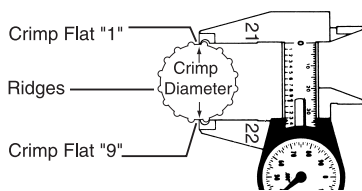

FIG. 1
- Using Gates "21/22" dial calipers (Product No. 7369-1320, Part No. 78217) measure halfway between ridges (Fig. 1). To be sure crimp diameter is being properly measured, mark a crimp flat. Beginning with that flat, count 9 flats to get the diameter. Be sure caliper blades DO NOT touch ridges. (See Photo 3.)